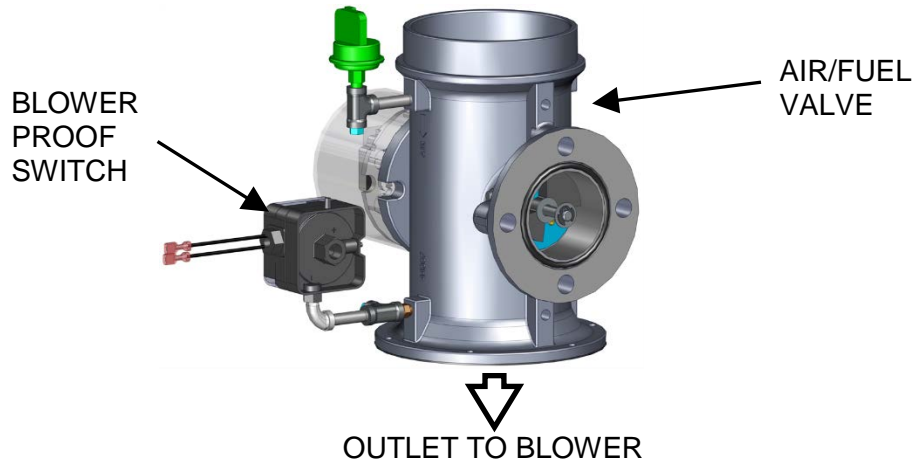

Figure 3-5: Blower Proof Switch
6. Next, the **Blower Proof** switch on the Air/Fuel Valve (Figure 3-5) closes. The display will show **PURGING** and indicate the elapsed time of the purge cycle in seconds.